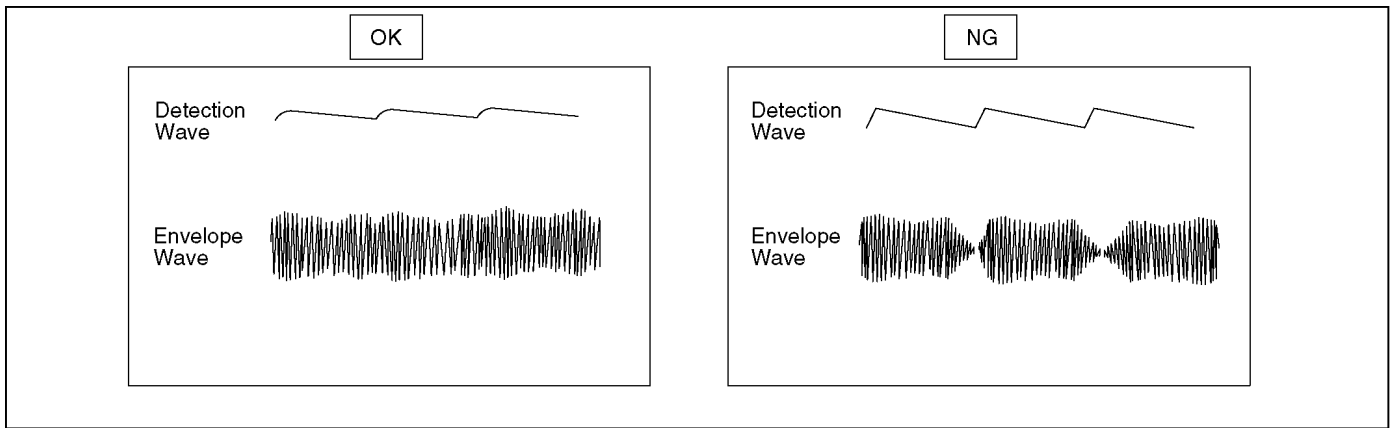

Fig. D3
5. The post is adjusted with the post driver(VFK1899) so that recycles the normal tape which recorded NTSC signal and the detection wave-link become a flat as shown in Fig. D3.